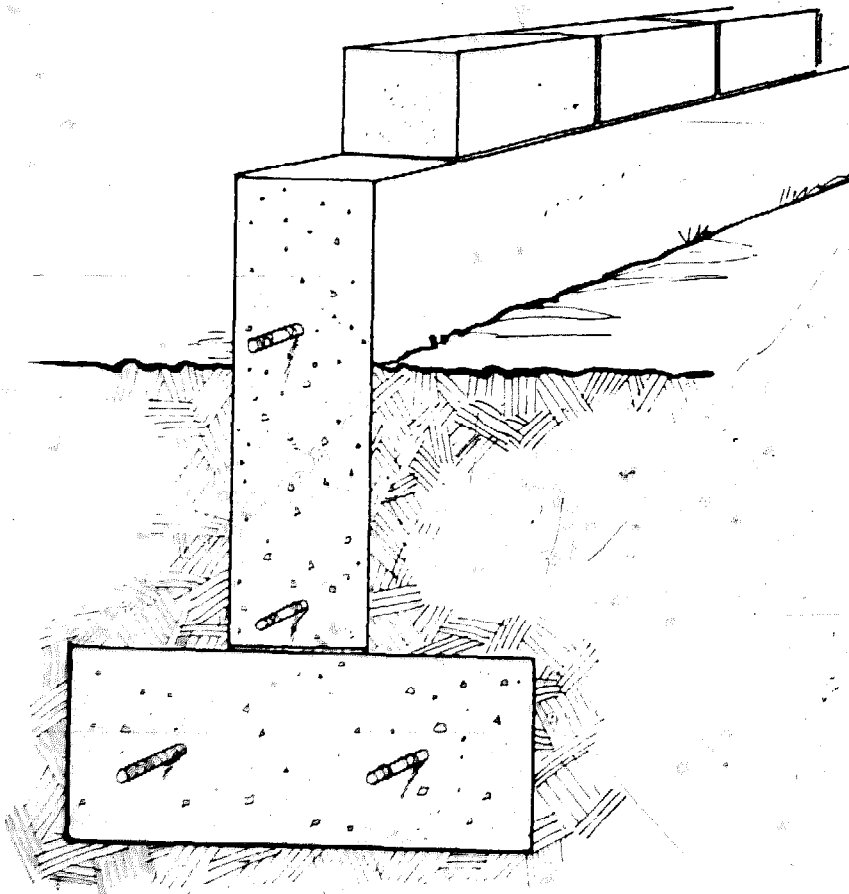

Figure 25.
*TYPES OF FOUNDATIONS*—House foundations may consist of separate *piers* or *footings*, which receive the load of the house through heavy beams that rest on them, or they may be *continuous footings* that run under all outside walls and load-bearing partitions. For earth walls, continuous footings are most commonly used. A *foundation wall* rests on the footing and extends upward and supports the walls. A typical continuous footing and foundation wall is shown in Figure 25. Not all such construction requires reinforcing steel.
*FOOTINGS*—Footings have three purposes: (1) to provide a solid, level base for the foundation walls; (2) to hold the weight of the house it supports on the earth so that the load will not be too great at any point for the soil to support;